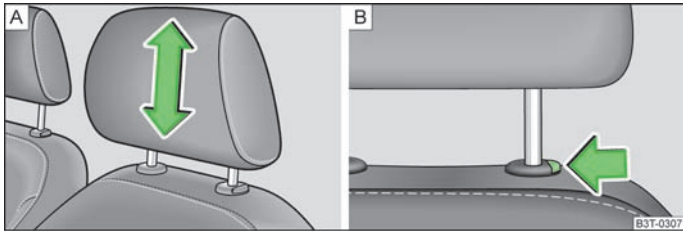

Fig. 46 Head restraint: adjusting/removing
- Grasp the side of the head restraint with both hands and push it upwards as required » Fig. 46 - [A].
- To move the head restraint downwards, press and hold the safety button » Fig. 46 - [B] with one hand and press the head restraint downwards with the other hand.
- Press the locking button in direction of the arrow » Fig. 46 - [B] and pull the head restraint out.